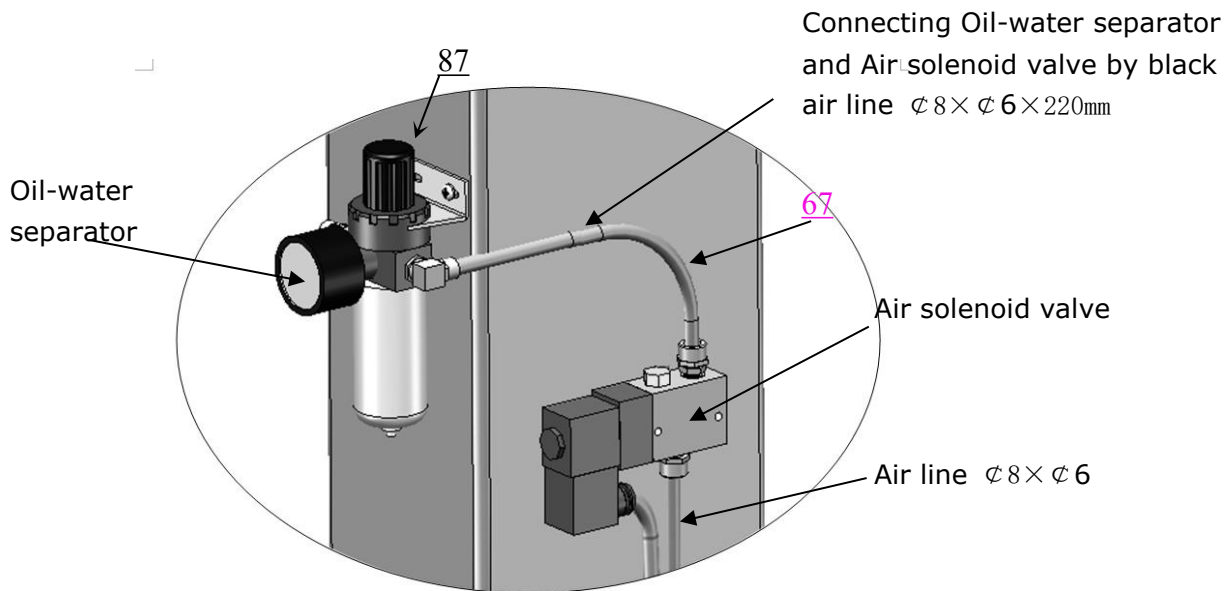

Fig. 38
4. Connecting Oil-water separator and Air solenoid valve by air line (See Fig. 38).